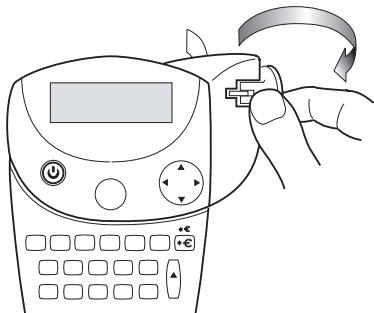

Figure 5
3. Cut the label using your thumb to lift the cutting lever and pull it towards the back of the printer. See Figure 5.